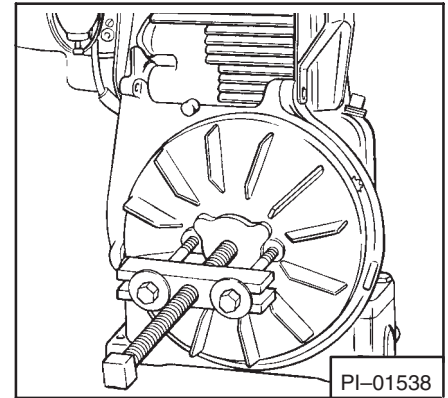

Fig. 37 Removing Flywheel
7. Flywheel is mounted on tapered portion of the crankshaft. Use of a puller (Fig. 37) is recommended for removing flywheel. Bumping end of crankshaft with hammer to loosen flywheel should be avoided as this can damage crankshaft.